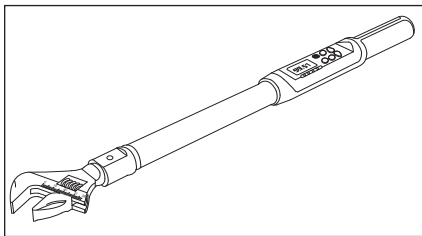

Figure 19 - Use an HVAC torque wrench to ensure proper line nut connection torque.
- 5** Complete the connection using a torque wrench to tighten the connection to 14.75 lb-ft (11.06 to 18.44 lb-ft) onto the inlet port. See Figure 19.
- 8** Complete the connection using a torque wrench to tighten the connection to 14.75 lb-ft (11.06 to 18.44 lb-ft) onto the outlet port. See Figure 19.